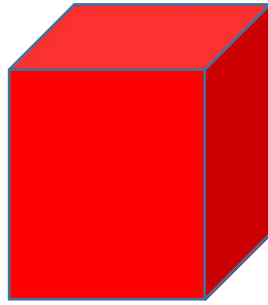

Figure 8: Wrapping the Nuts with Coloured Paper
- ❖ Wrap all the Nuts with red, blue and green colored paper so that all sides are of same color. (Refer to Figure 8).